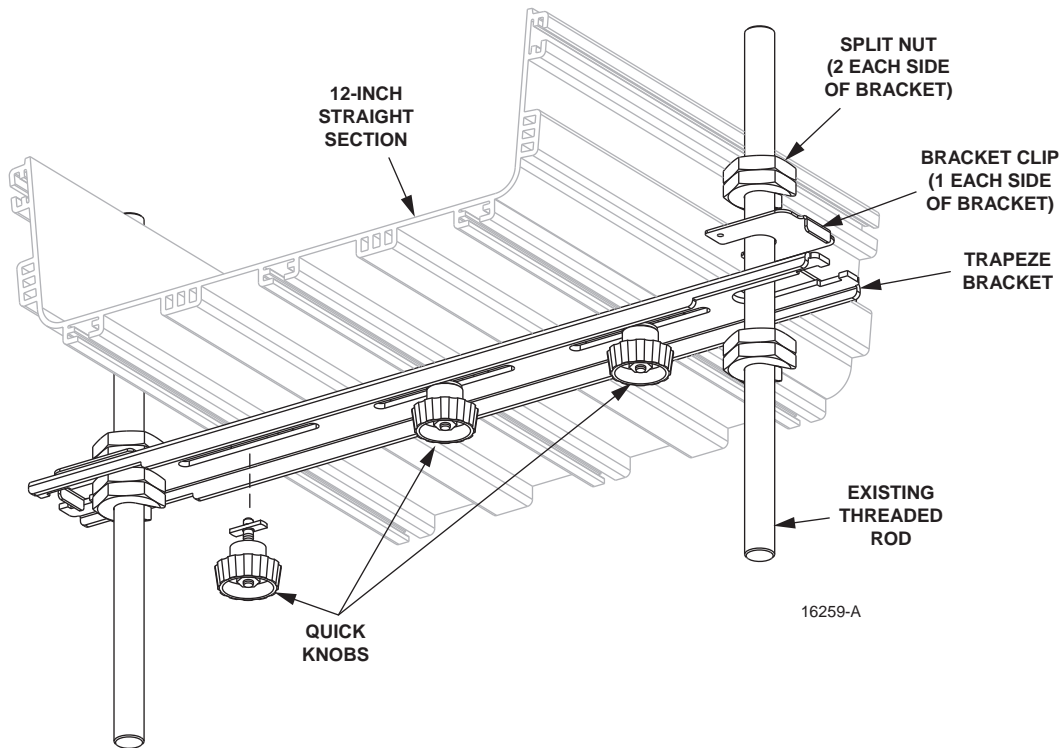

Figure 2-34. Installing 12-Inch Trapeze Support Existing Threaded Rod Bracket Kit
Install a trapeze support existing threaded rod bracket kit in the following order, referring to Figure 2-34.
1. In the approximate desired position, install the two bottom split nuts shown in Figure 2-34. Install each nut as follows:
3. Install a bracket clip and second split nut on each threaded rod (above the trapeze bracket, as shown in Figure 2-34).